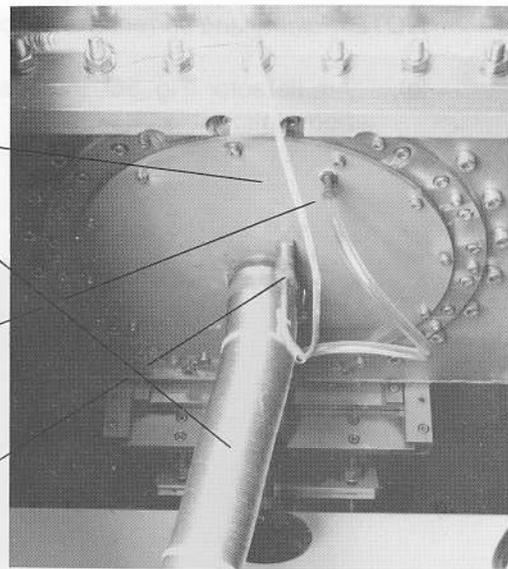

Fig. 53. Typical Customer-Connections to RF Output Window
- (k) RF output window air-temperature sensor (Fig. 53).
- (l) Air supply (Fig. 53) to RF window cooling-air inlet plate (TE 1165).
- (m) RF output window air-pressure sensor (Fig. 53). This interlock ensures that HV supplies cannot be switched on if RF window air supply is disconnected.